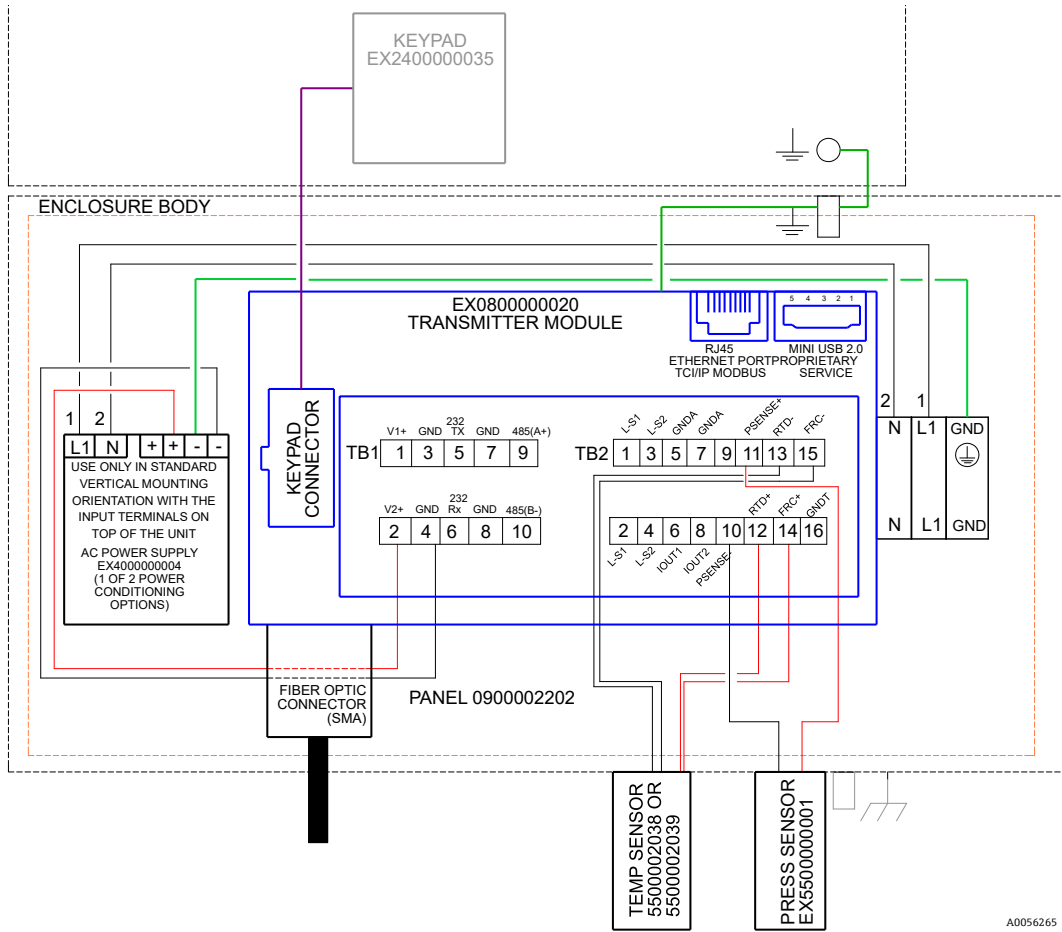

Figure 9. TB1/TB2 connections
Use customer-supplied cables for current loop and alarm connections. Refer to Figure 9.
- Connect IOUT1 and IOUT2 (4-20 mA) to terminals 6 and 8 (see Figure 9 and Table 1. Terminal block TB2).